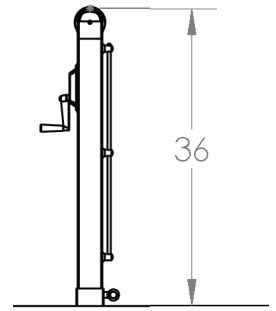

Figure 5
**STEP 4:** Loosen the eyebolt on the Height Collar and using a tape measure, adjust the height of the pickleball posts to 36". Retighten eyebolts. See Figure 5.